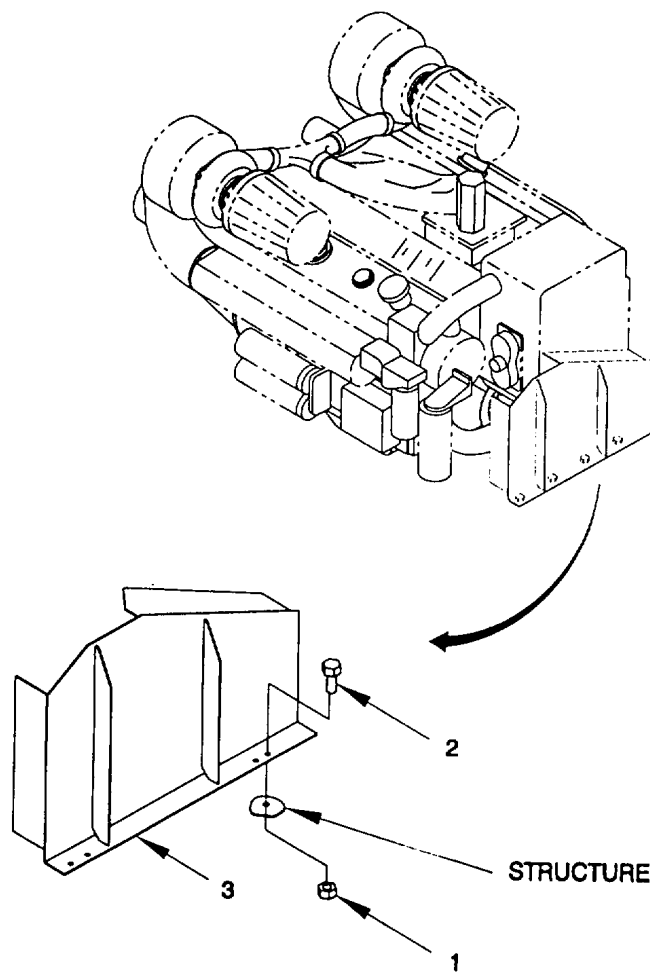

Figure 2-19. Alternator Belt Guard, Remove/Install.
a. Remove. (figure 2-19)
b. Install. (figure 2-19)